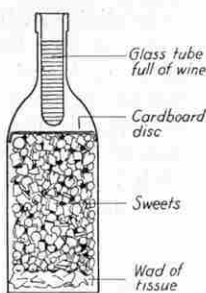

FIG. 1
**The Secret.** The bottle is a dummy made of cardboard. You can buy bottles of this kind filled with crackers at most fancy stores; they are sold in various shapes and sizes, so you can choose one that best suits your own purpose. Take out the centre container that holds the crackers and throw it away. Now glue into the bottle, right up near the neck, a disc of cardboard to form a sort of false bottom (Fig. 1). Into the neck of the bottle fit a glass test tube. The wine that is poured out of the bottle at the beginning of the trick is contained in this tube. You may omit this part, if you wish, but the pouring of liquid from the bottle will go a long way towards convincing your audience that the bottle is genuine.